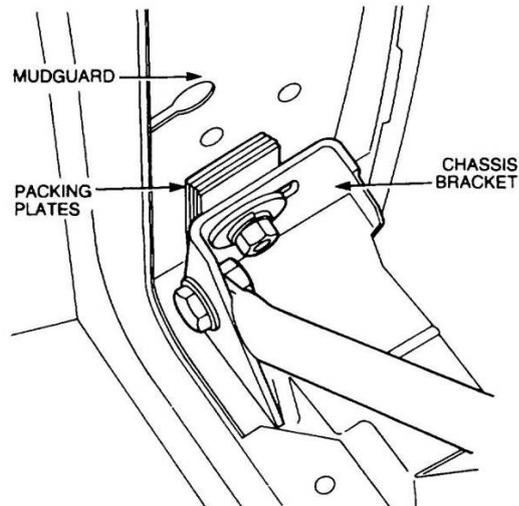

Figure 155 Removal of the Right Mudguard
- i. Remove the nut, washers and bolt securing the mudguard to the chassis bracket and remove the packing plates if fitted (Figure 155).
- g. Install the packing plates (if required) between the mudguard and chassis bracket (Figure 155), and fit the bolt, washer and nut.